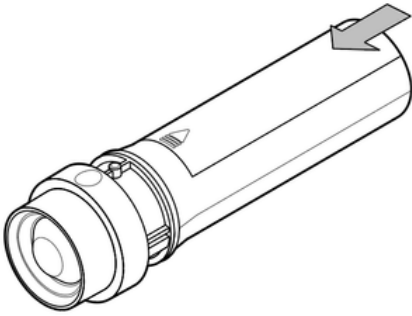

Fig. 5
4. Close the battery cover (Fig. 5).
3. Close the battery cover back into place (Fig. 5).